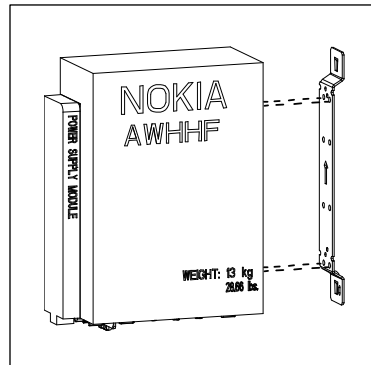

Figure 12
2. Attach the AWHHF radio to the bracket, observing the UP arrow on the bracket (Figure 12).